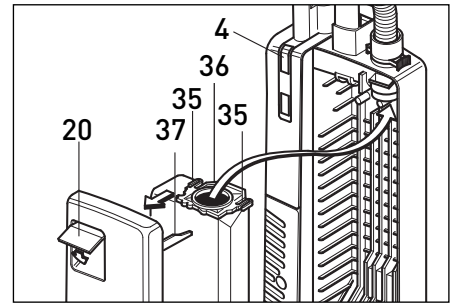

Figure 9
Changing the Dust Bag - Figure 9
2. Bag not inserted properly.	2. Reinsert bag with cover release flap (20) up, until firmly latched in bag holder (see pg. 10, figure 9).